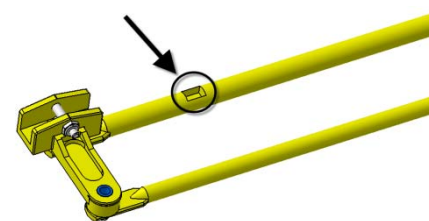

FIGURE 8
8. Insert the hose recovered on the former arms and insert into the new arms through the hole indicated on FIGURE 8.